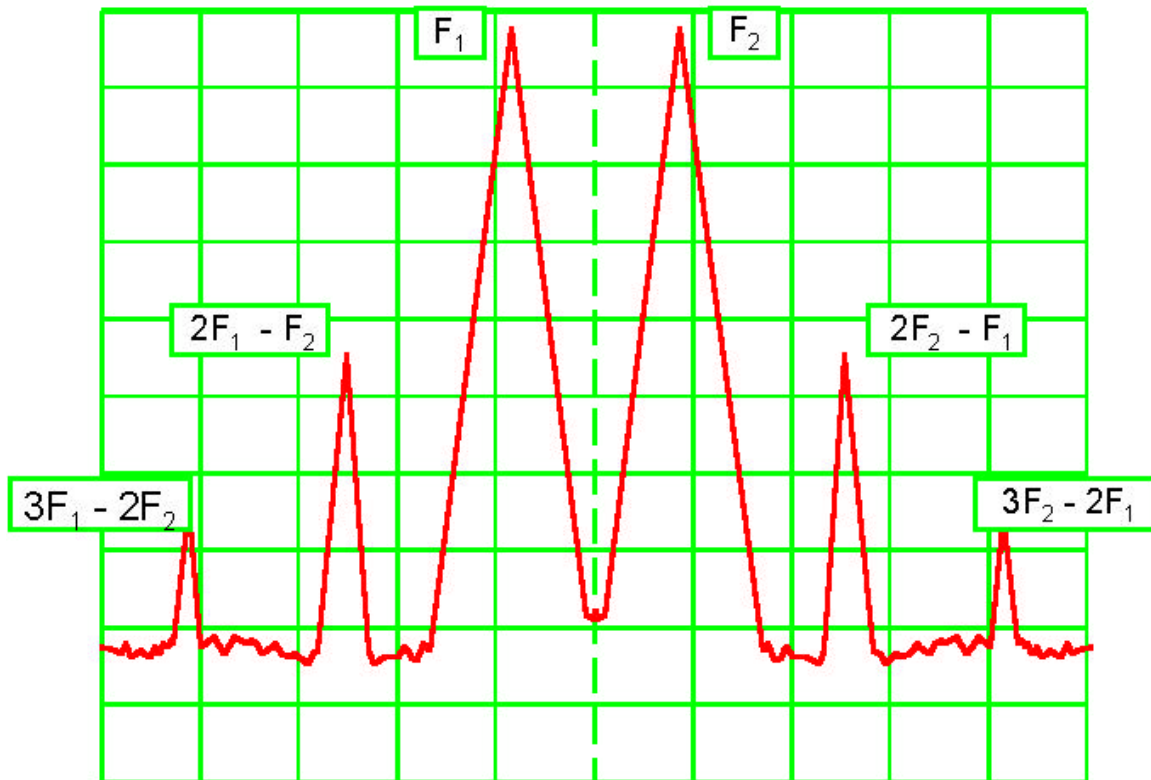

Fig. 4
- 7.4 Third order intermodulation products occur when the second harmonic of one of the two signals mixes with the other frequency – Fig. 4.